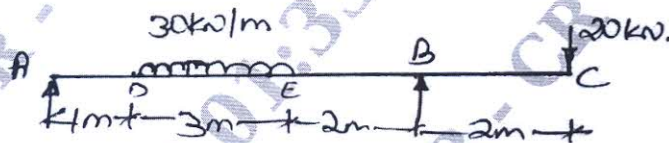

Fig.Q10(b)
b. An overhanging beam ABC supported at A and B is loaded as shown in Fig.Q10(b). Determine the deflection at free end C and the maximum deflection between A and B. Take $\epsilon = 200 \text{ kN/mm}^2$, $I = 45 \times 10^6 \text{ mm}^4$.